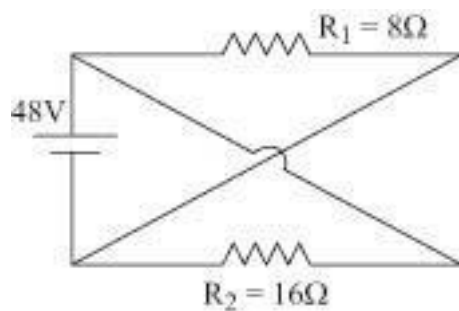

Figure 1.11
4. Calculate the current supplied by the battery the given circuit as shown in the figure 1.11.